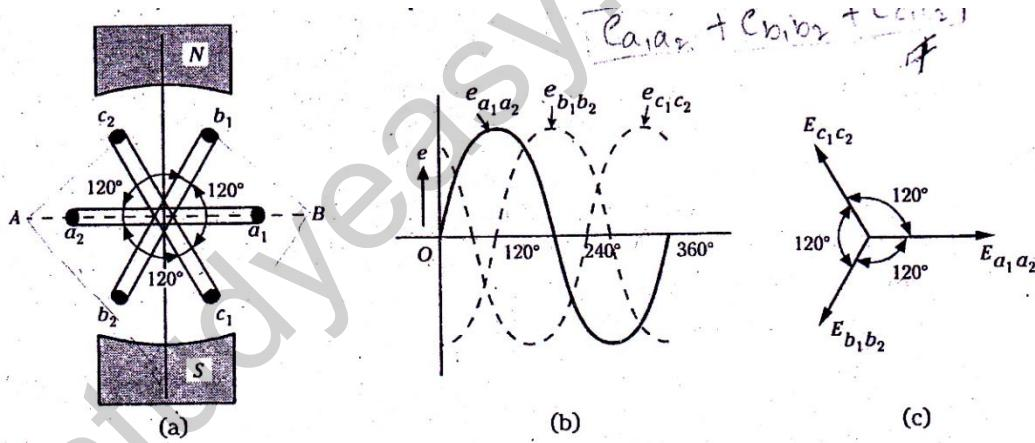

Fig. 3.80
Consider three electrical coils a_1a_2 , b_1b_2 and c_1c_2 mounted on the same axis but displaced from each other by 120° electrical. Let the three coils be rotated in an anticlockwise direction in a bipolar magnetic field with an angular velocity of ω radians/sec, as shown in Fig. 3.80. Here, a_1 , b_1 and c_1 are the start terminals and a_2 , b_2 and c_2 are the end terminals of the coils.
When the coil a_1a_2 is in the position AB shown in Fig. 3.80, the magnitude and direction of the e.m.f.s induced in the various coils is as under:
- E.m.f. induced in coil a_1a_2 is zero and is increasing in the positive direction. This is indicated by $e_{a_1a_2}$ wave in Fig. 3.80 (b).
Vector Diagram: The r.m.s. values of the three phase voltage are shown vectorially in Fig. 3.80(c).
The order in which the voltages in the phases reach their maximum positive values is called the phase sequence. For example, in Fig. 3.80(a), the three coils $a_1 a_2$, $b_1 b_2$ and $c_1 c_2$ are rotating in anticlockwise direction in the magnetic field. The coil $a_1 a_2$ is 120° electrical ahead of coil $b_1 b_2$ and 240° electrical ahead of coil $c_1 c_2$. Therefore, e.m.f. in coil $a_1 a_2$ leads the e.m.f. in coil $b_1 b_2$ by 120° and that in coil $c_1 c_2$ by 240° . It is evident from Fig. 3.80(b) that $e_{a_1 a_2}$ attains maximum positive first, then $e_{b_1 b_2}$ and $e_{c_1 c_2}$. In other words, the order in which the e.m.f.s in the three phases $a_1 a_2$, $b_1 b_2$ and $c_1 c_2$ attain their maximum positive values is a,b,c. Hence, the phase sequence is a,b,c.